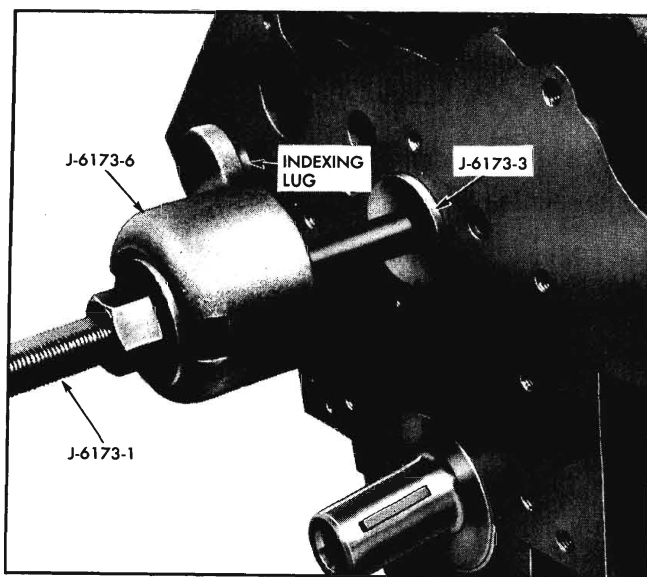

Fig. 6-41 Positioning Indexing Collar
4. Insert shaft and Indexing Collar through Remover and Replacer Adapters and position lug on Indexing Collar in ventilator hole in front of block (Fig. 6-41). This indexes the shaft so that it cannot rotate.
6. Insert Shaft with Indexing Collar, thrust washer, and nut through Remover, pilot and Replacer Adapters and index lug on Collar with ventilation hole in front of block (Fig. 6-41).